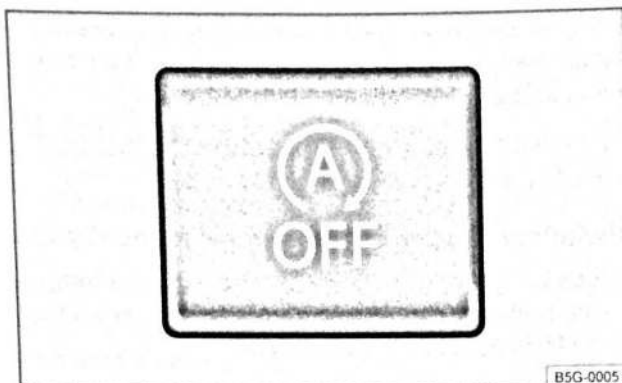

Fig. 146 In the centre console: button for the start/stop system
- If the  button in the centre console is pressed twice $\Rightarrow$ Fig. 146.
⇒ Fig. 146.